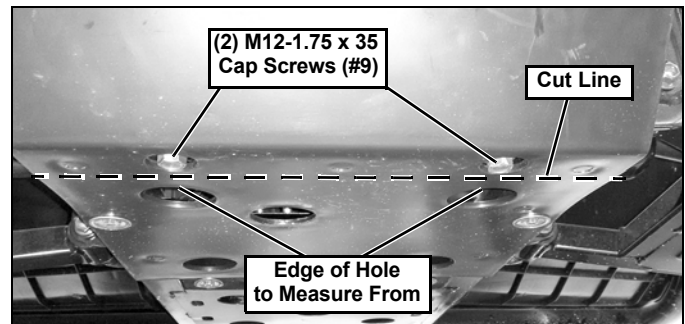

Figure 2
2. Mark a line completely across the skid plate, 1/2" from the edge to the specified holes. Then, cut and remove the front portion of the skid plate. This will allow the mount to seat flush against the frame. (See Figure 2.)
(See Figure 2.)